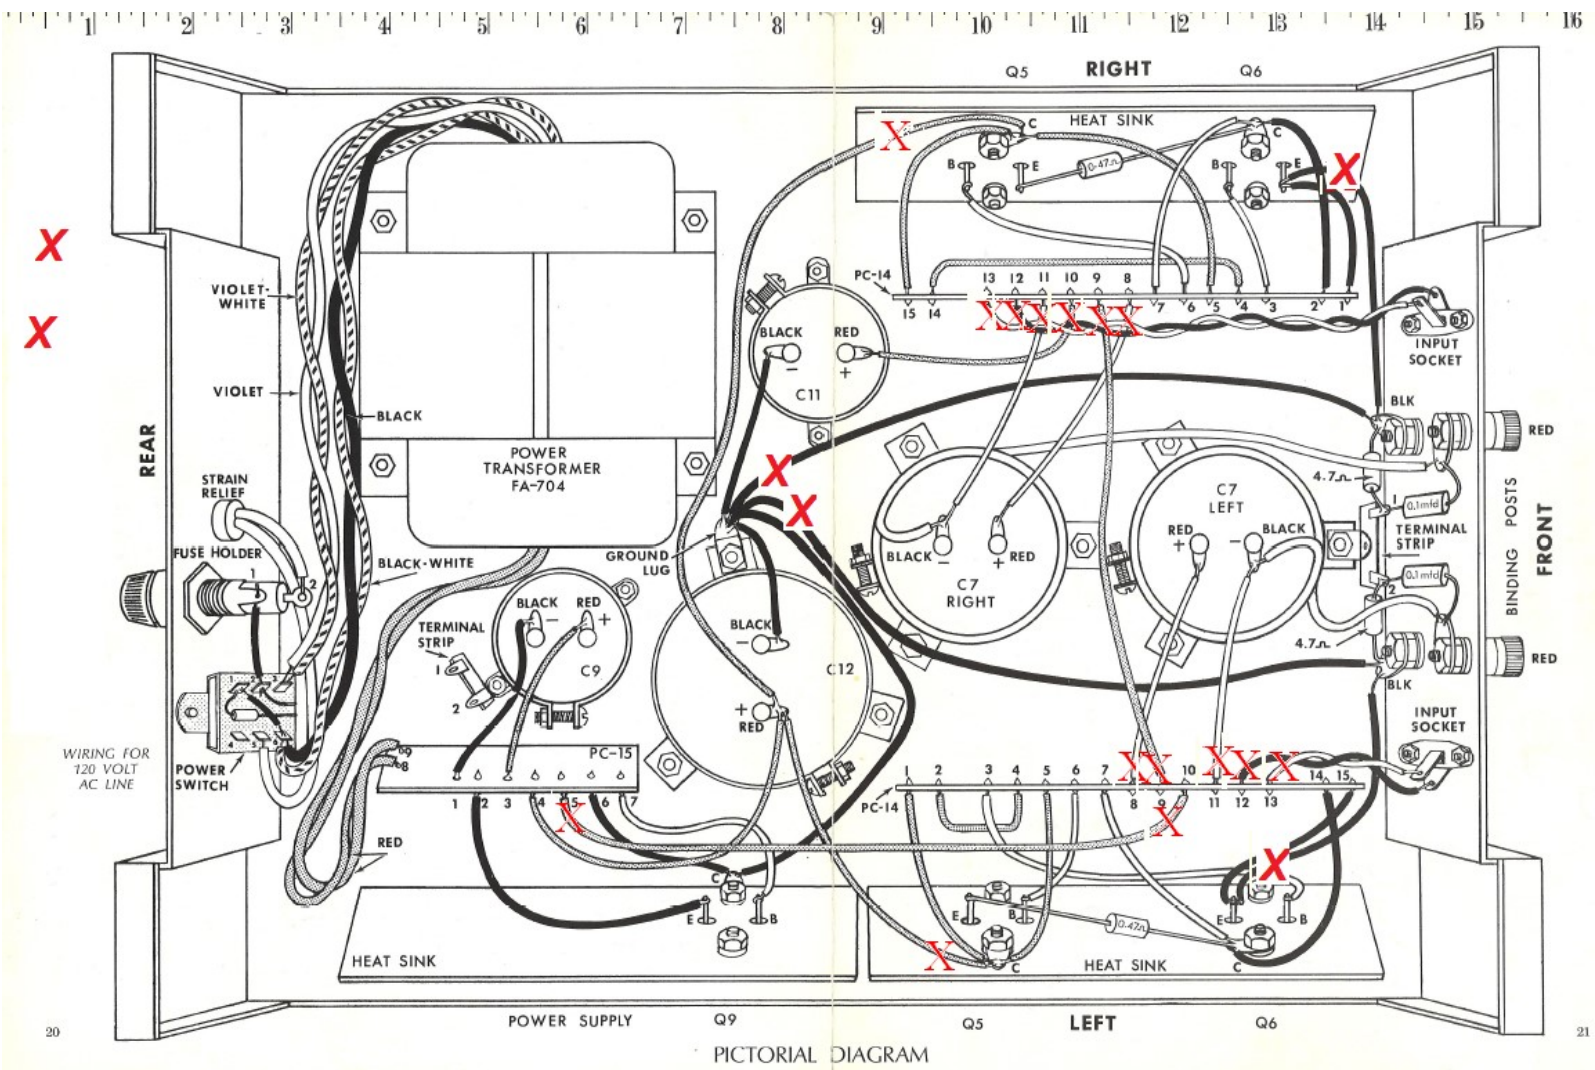

Figure 2-Component Identification, and where to cut
The following discussion refers to Figure 2.
1. Cut all the wires that hold the amplifier modules into the chassis. You can use the X's in Figure 2 for hints on where to cut the amplifier module wires.
Refer to Figure 2 as you: